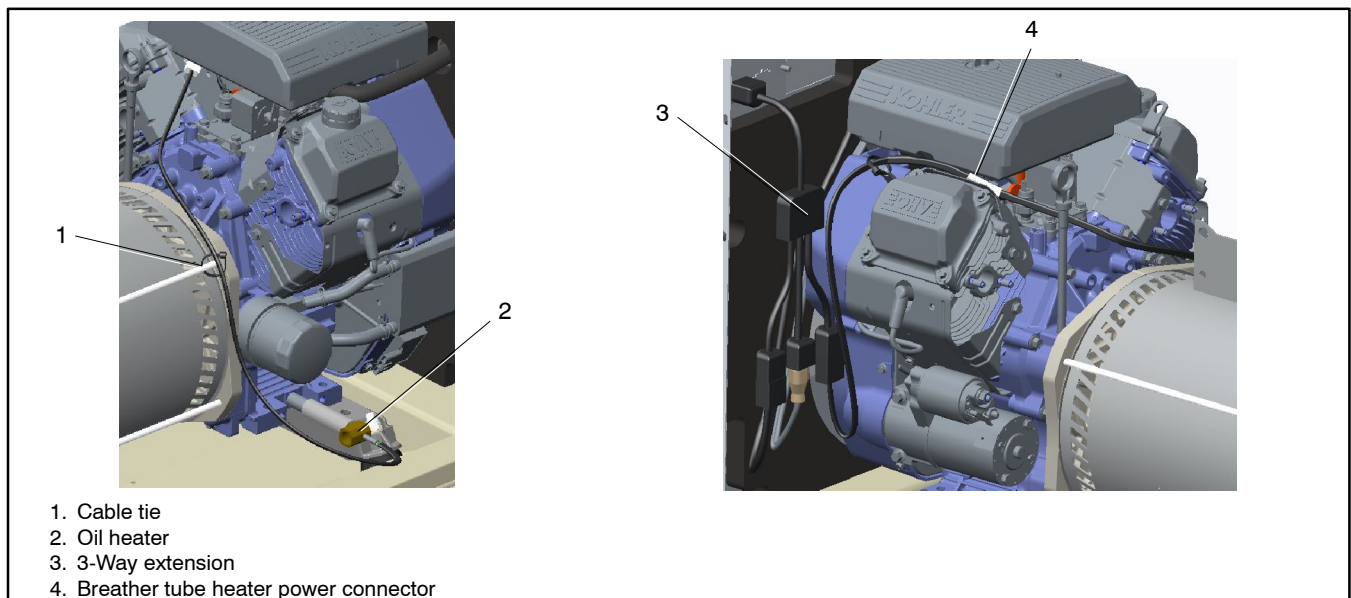
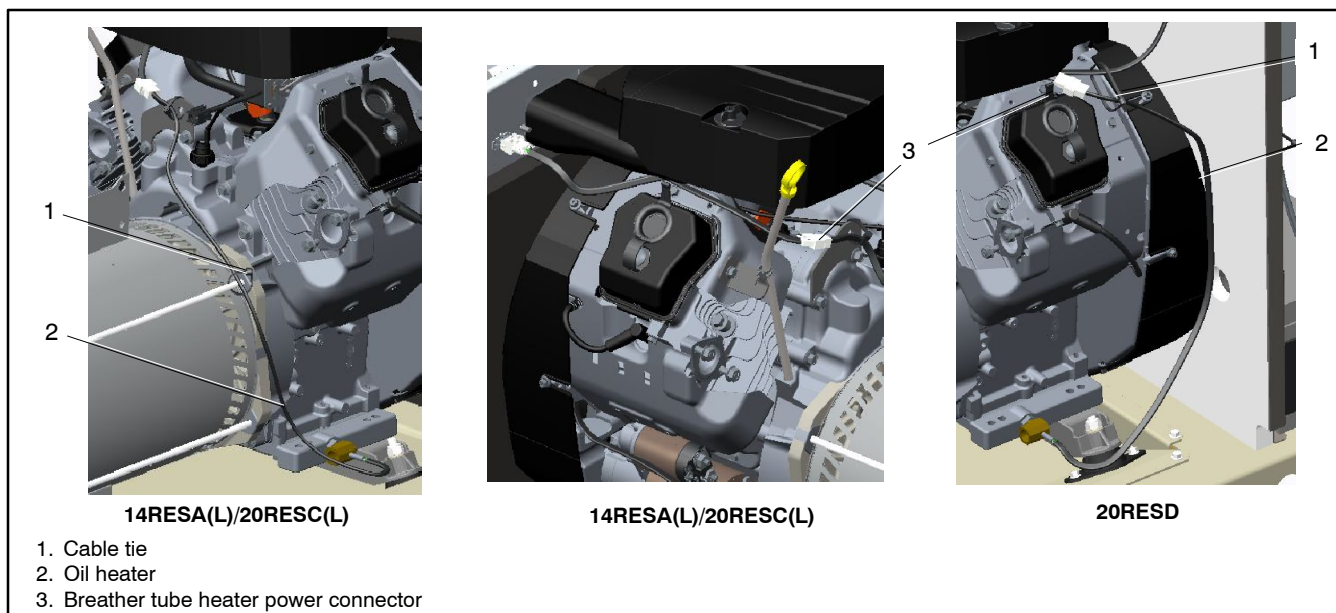

Figure 19 120V Oil Heater
Figure 20 240V Oil Heater
26. Route the power cord to avoid contact with hot parts. See Figure 19 and Figure 20.
27. Plug the power cord into the connector provided in the breather heater. See Figure 19 and Figure 20.
28. Collect the excess cable and secure with a cable tie. See Figure 19 and Figure 20.